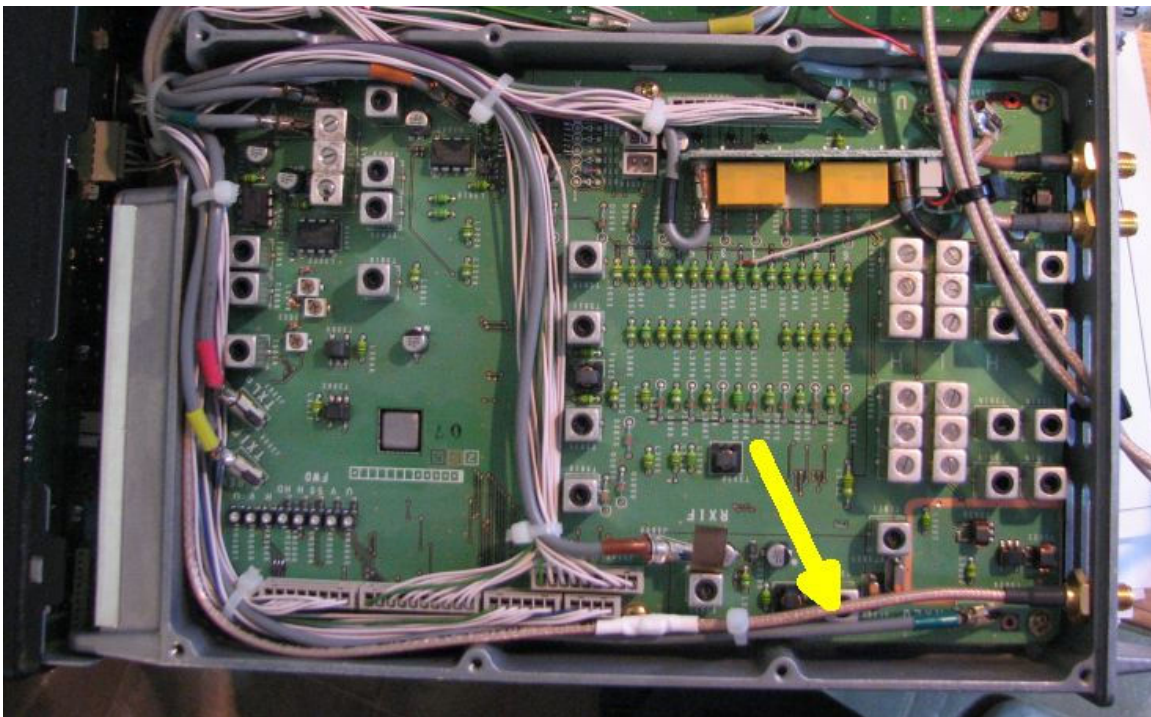

Figure 6 – Suggested Cable Route
6. Turn the rig over to the top. Thread the coaxial cable through the ventilation slot at the rear of the rig as per Figure 6. Route it along the edge of the rig, then across the front and through the gap in the middle to the underside.